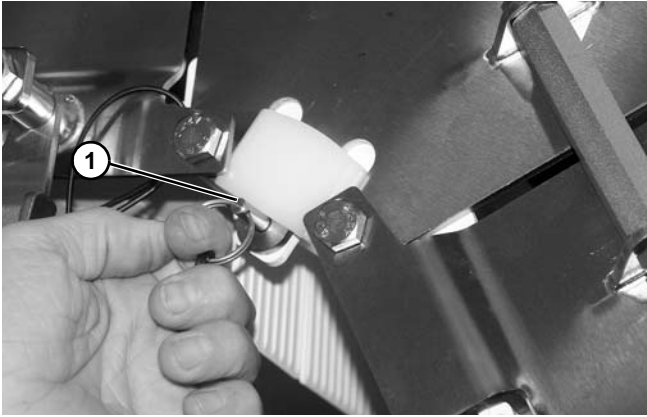
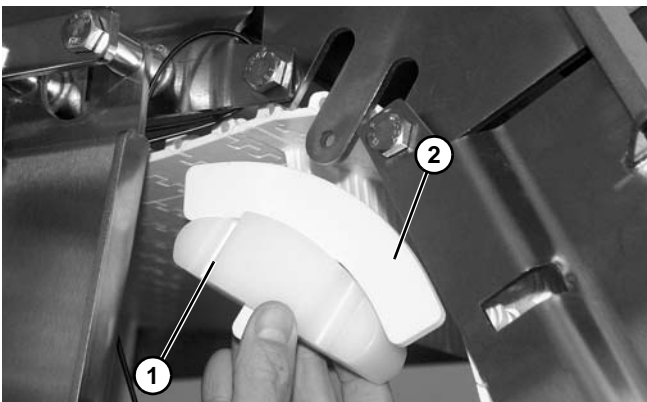

Figure 110
Figure 111
2. Remove pull pin (Figure 110, item 1), return shoe (Figure 111, item 1), and knuckle guide (Figure 111, item 2) on each side of upper knuckle.